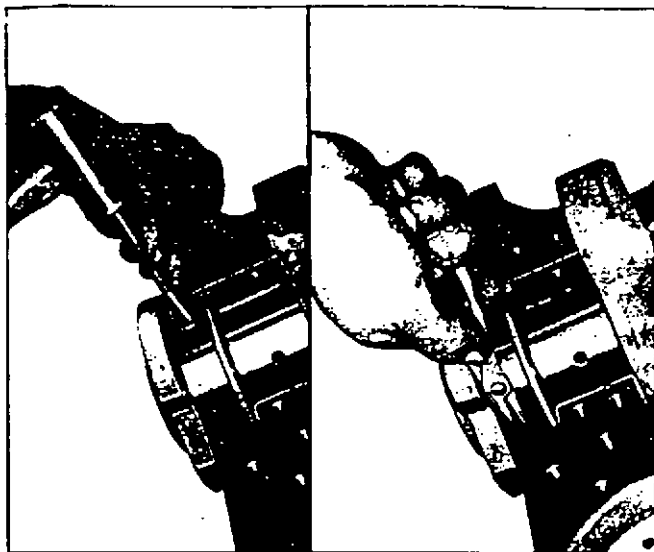

Fig. 8L—Removing Oil Seal (Upper Half) Typical
4. To remove the upper half of the seal, use a small hammer to tap a brass pin punch on one end of seal until it protrudes far enough to be removed with pliers (fig. 8L).